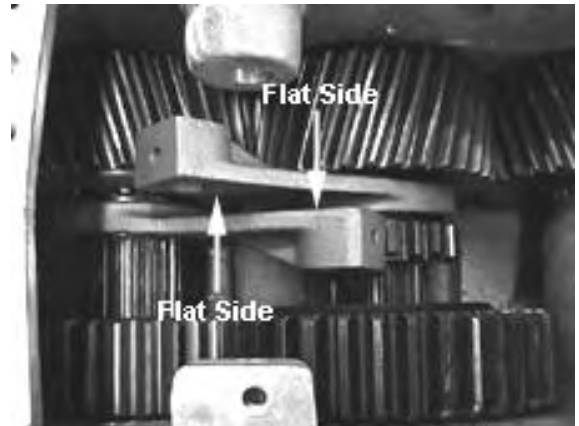

Fig. 86
45. Place the range shift forks into the housing with the flat sides facing each other. See Fig. 86.